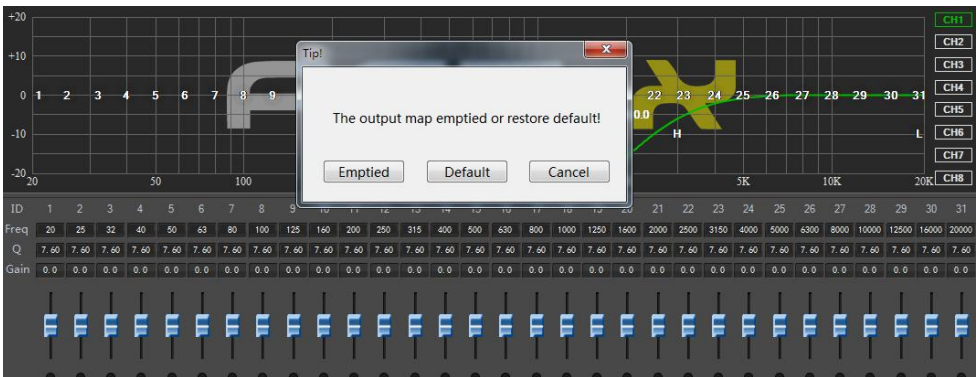

Figure 3.3.4
After the user has configured all of the output signal path, click on the right side of Figure 3.3.4 "Lock Output Configuration" to lock the configured output channel speaker sound field position. So that users and then in the bottom of each channel label, click on the type of drop-down menu box, type options will not pop up.
**Straight balanced:** the button shown in Figure 3.3.4, the current channel as long as there is an equalizer in the open state, this button will appear highlighted in green state, indicating that you can click this button to make all the equalizer current channel change to not start moving (directly). Click the button that will return to "restore the balance." Then click on "restore the balance" button will allow all current equalizer channel back to the last activated state.
**Reset balanced:** the button shown in Figure 3.3.4, click this button to make all current channel equalizer parameters return to the initial state: uniform distribution of frequency, Q value is 1.2, a gain of 0dB.